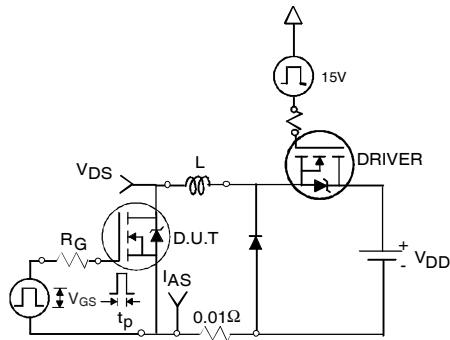

Fig 12a. Unclamped Inductive Test Circuit
| I_{AR} | Avalanche Current ① | See Fig.12a, 12b, 15, 16 | |
3. Equation below based on circuit and waveforms shown in Figures 12a, 12b.